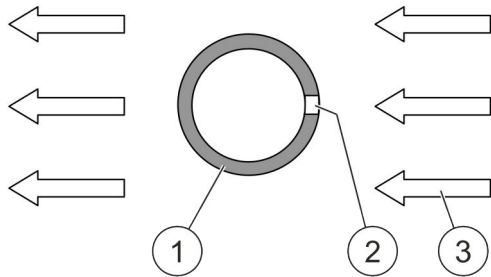

Fig. 32: Suction pipe and air flow
2. ➔ Align the suction pipe (Fig. 32/1) with the suction bores (Fig. 32/2) so that the suction bores are directed against the air flow (Fig. 32/3) (e.g. from air-conditioning devices or fans).